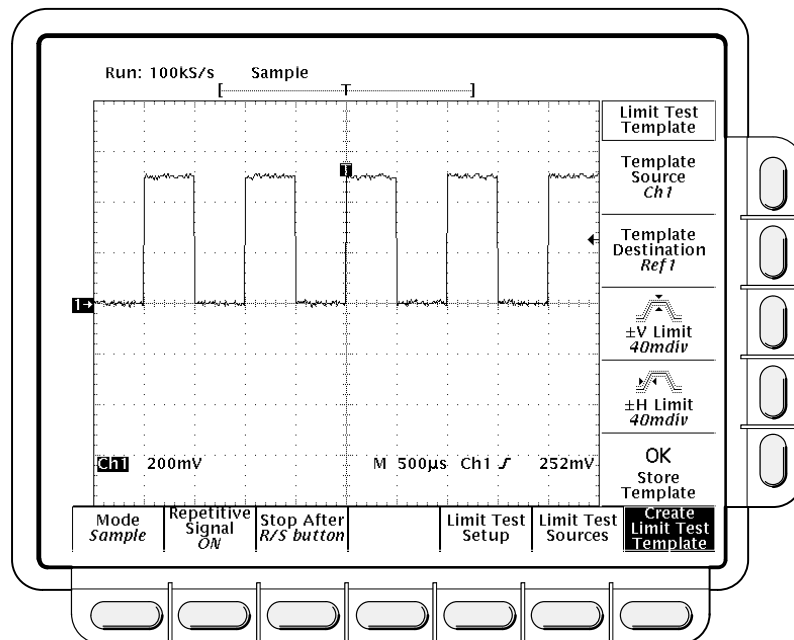

Figure 3-41: Acquire Menu — Create Limit Test Template
1. Press **Create Limit Test Template** (main) → **Template Source** (side) → **Ch1, Ch2, Math1, Math2, Math3, Ref1, Ref2, Ref3, or Ref4** (side). (See Figure 3-41).